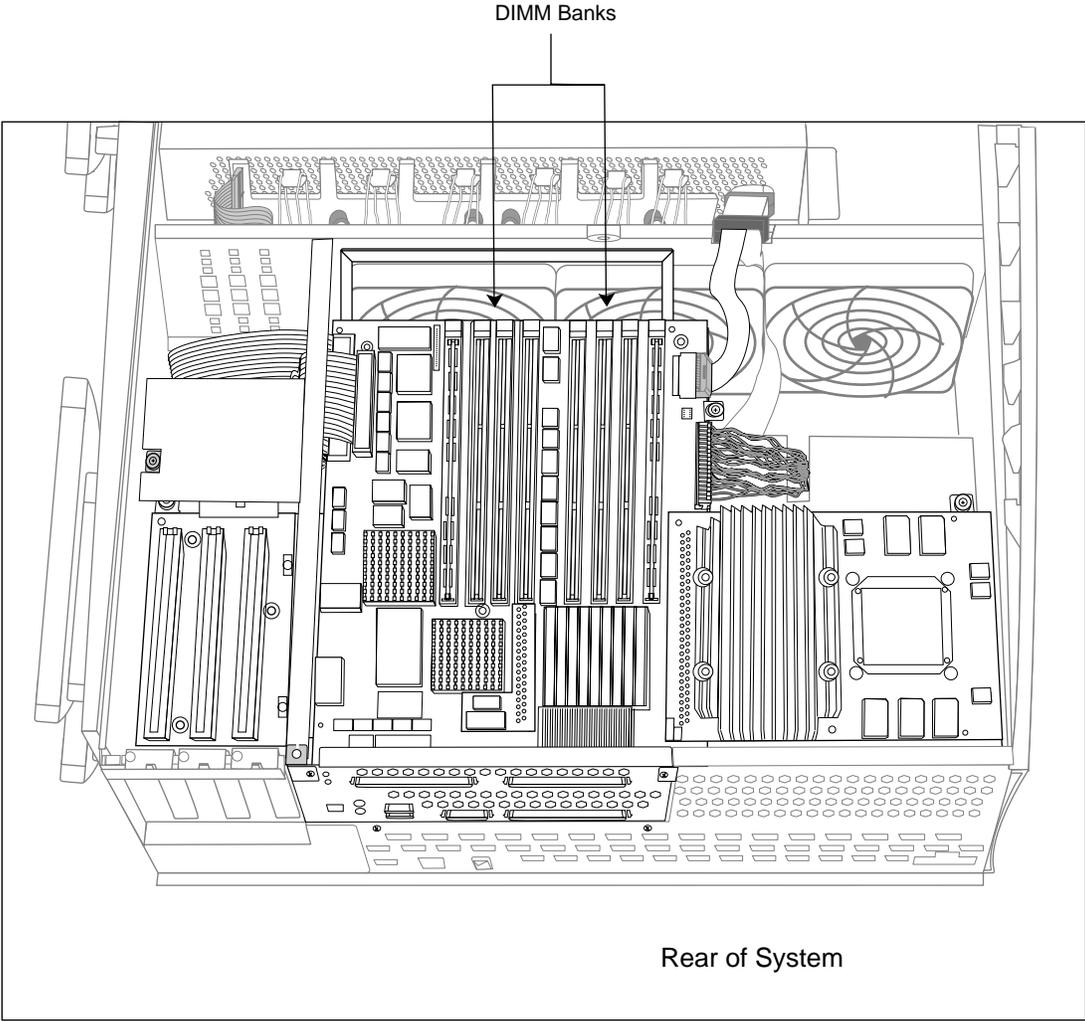

Figure 5-6 Locating DIMMs In the Origin200
5. Locate the DIMMs. See Figure 5-6.